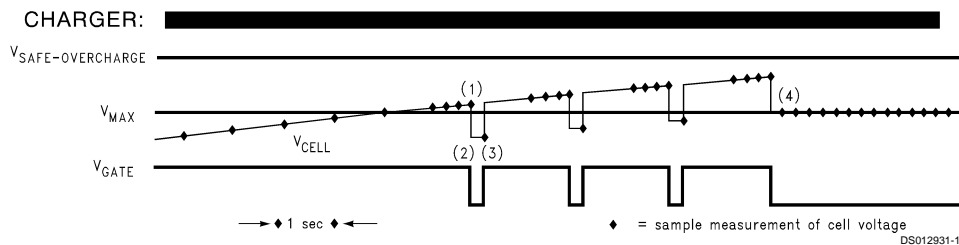

FIGURE 1. Normal Termination of Charging
As you can see in *Figure 1*, the cell voltage must exceed V_{MAX} for 4 consecutive samples before the MOSFET pair is turned OFF (1). Once V_{MAX} is exceeded, the sampling rate will increase to 4 Hz. The sampling rate will return to 1 Hz only after 4 consecutive samples result in $V_{CELL} < V_{MAX}$. After the MOSFET pair is OFF (2), the voltage across the cell(s) relax and the cell voltage will drop below V_{MAX} . On the next sample, (3), the MOSFET pair will turn ON. As long as the charger is applied and the MOSFET pair turn ON, the cell voltage will exceed V_{MAX} again. The cycle of 4 samples ON a 1 samples OFF will continue until the cell voltage equals V_{MAX} after the MOSFET pair is OFF, (4). This example exaggerates the rate of these events. The actual operation would result in many ON/OFF cycles at a decreasing duty cycle prior to complete termination of charge. The cell bypass resistor will discharge the cell enough to turn on the GATE over a period of minutes.